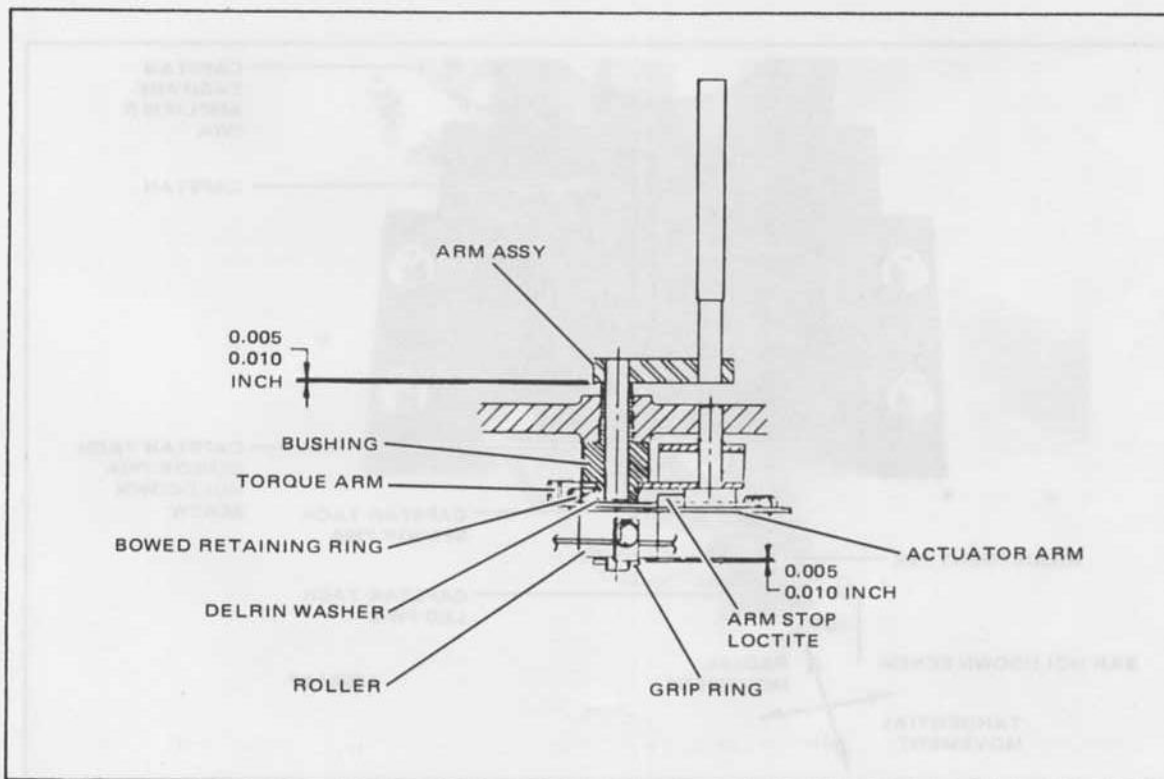

Figure 5-4. Tape Lifter Arm Assembly Cross Section
- STEP 2 Remove grip ring (Figure 5-4) on underside of lifter arm assembly.
- STEP 6 Reinstall the tape lifter arm assembly in reverse order, observing the clearances noted in Figure 5-4.